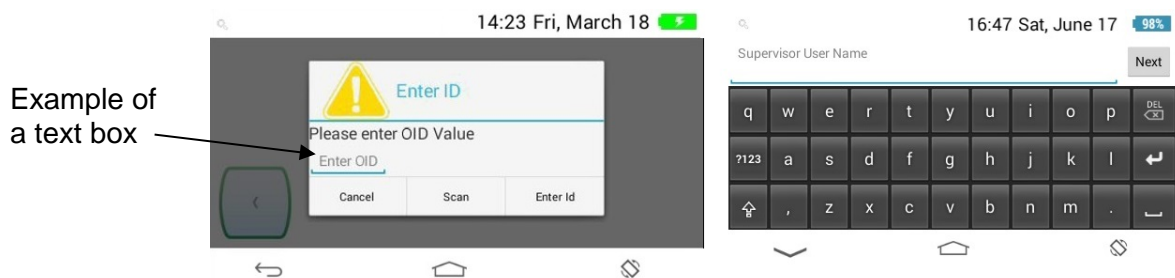

Figure 11 – To display the virtual keyboard, touch a text box
- To display the virtual keyboard, touch a text box. For example, when the **Enter OID** dialog box is displayed, touch **Enter OID**. See Figure 11.